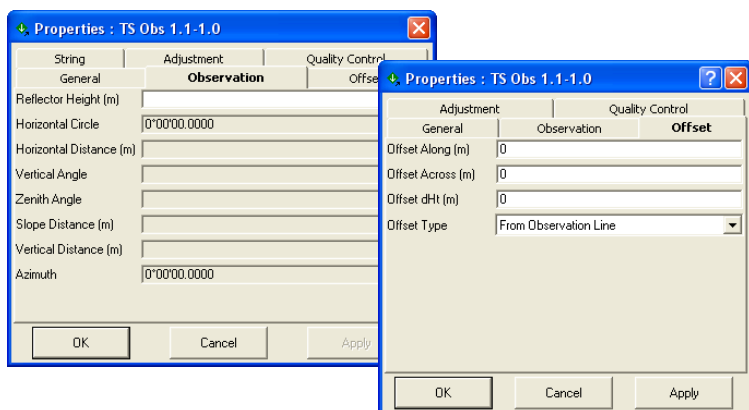

Figure 5-88. Observation and Offset Properties
- View or edit *Observation* tab fields. Edit *Reflector Height* and *Azimuth* fields as needed (Figure 5-88 on page 5-58). Other fields depend on the selected Job Configuration option.
- View or edit *Offset* tab fields for editing offsets and selecting the offset Type (Figure 5-88 on page 5-58).